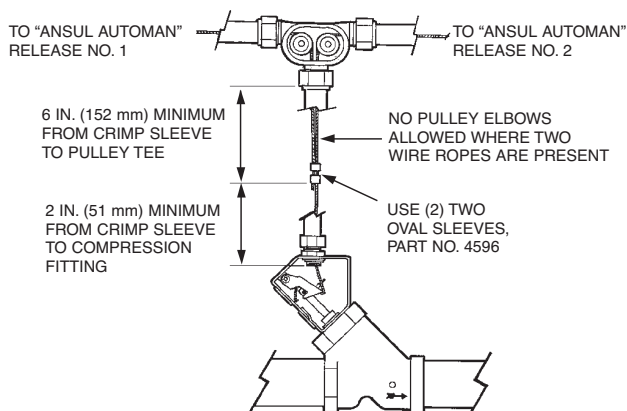

FIGURE 64
18. **Note:** If utilizing a pulley tee to operate a single mechanical gas valve from two (2) ANSUL AUTOMAN releases, see Figure 64 for installation instructions. Maximum length of wire rope to each ANSUL AUTOMAN release must not exceed 150 ft. (45.7 m) and maximum number of elbows must not exceed 20.